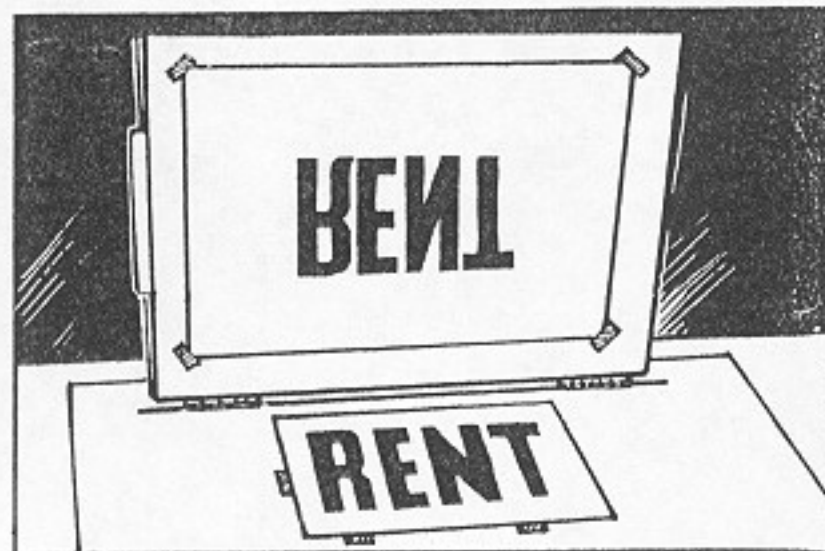

Fig. 80. Printed Sign
8. Raise the screen, remove the printed card, and insert another blank in register, Fig. 80. Print rapidly so that the screen mesh will not become clogged with paint.